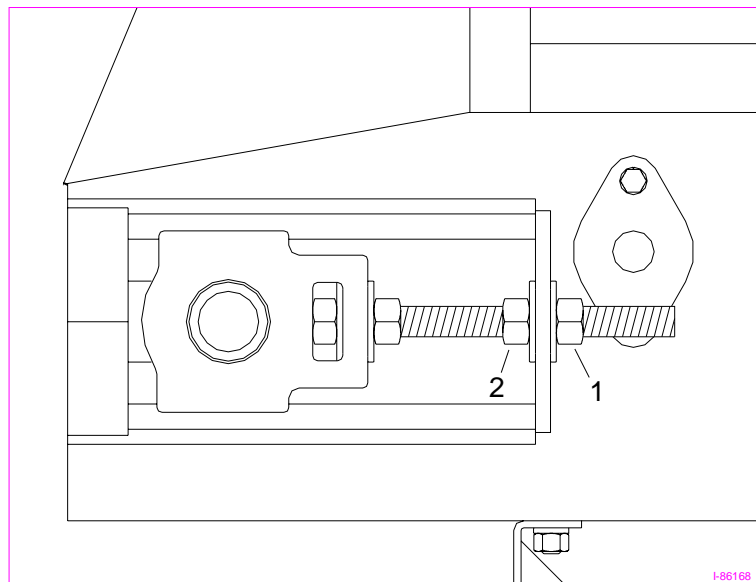

Figure 4A - Adjusting the Floor Apron Belt
- Periodically check the floor apron belt for proper tension and tracking (refer to **Figure 4A** and the **TURF TIGER Spreader Drive Assembly Parts Detail** drawing in Appendix A at the back of this manual).
- Refer to Figure 4A and adjust the belt tension according to the following guidelines: